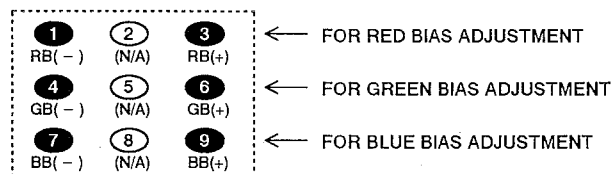

Figure 4. Remote Control Number keys function in Service Menu "NO. 41"
10. Raise each Bias Level with "3", "6" or "9" key to obtain just visible white line. (See Figure 4 below.)